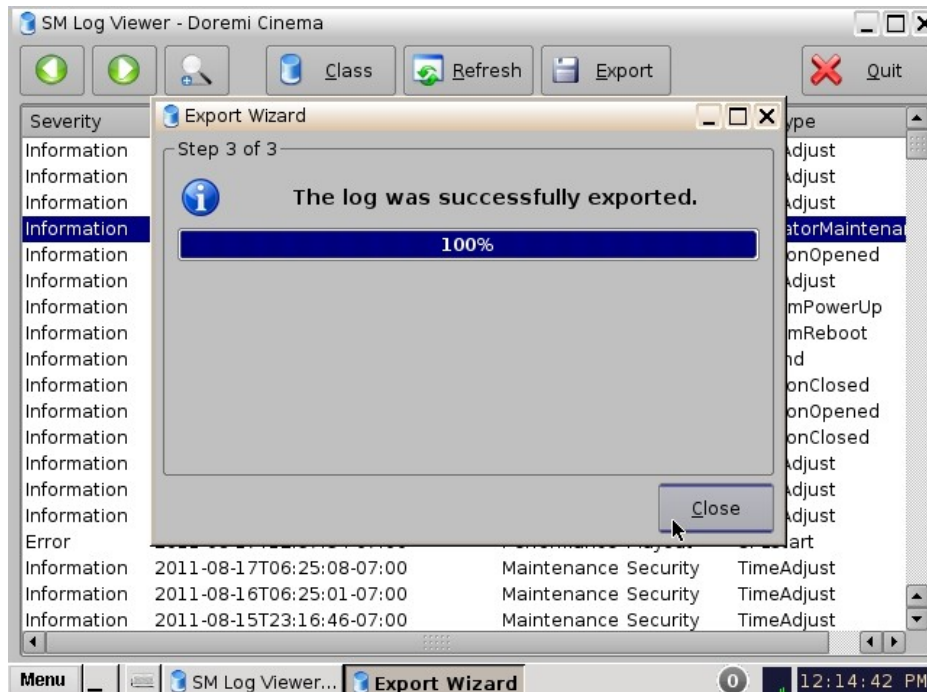

Figure 140: SM Log Viewer Log – Export
- Once the log exportation is complete, the GUI will indicate the process was successful (Figure 140). Click the Close button to exit the pop-up window.